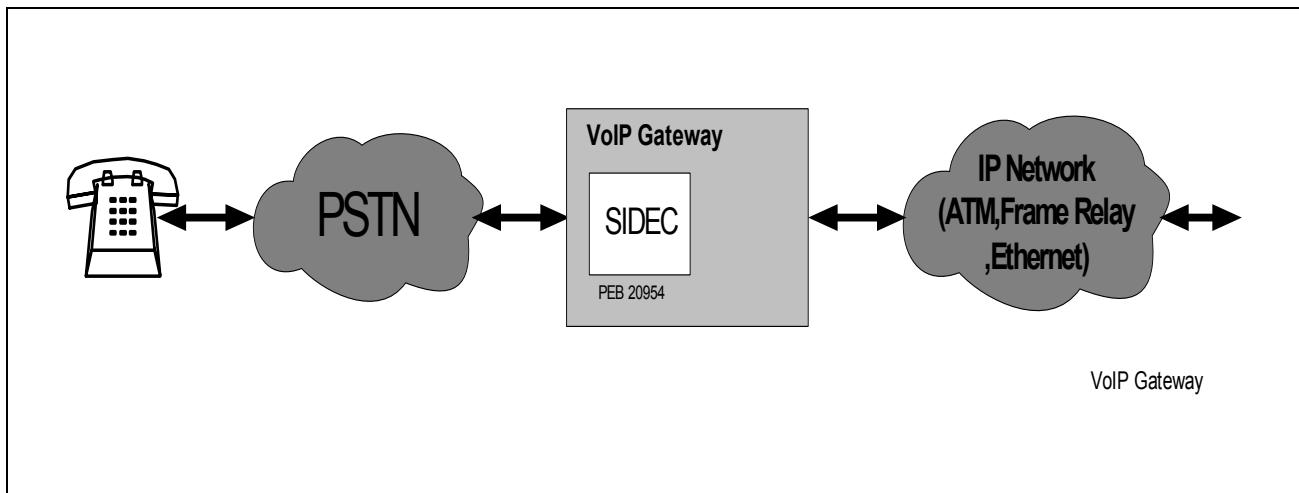
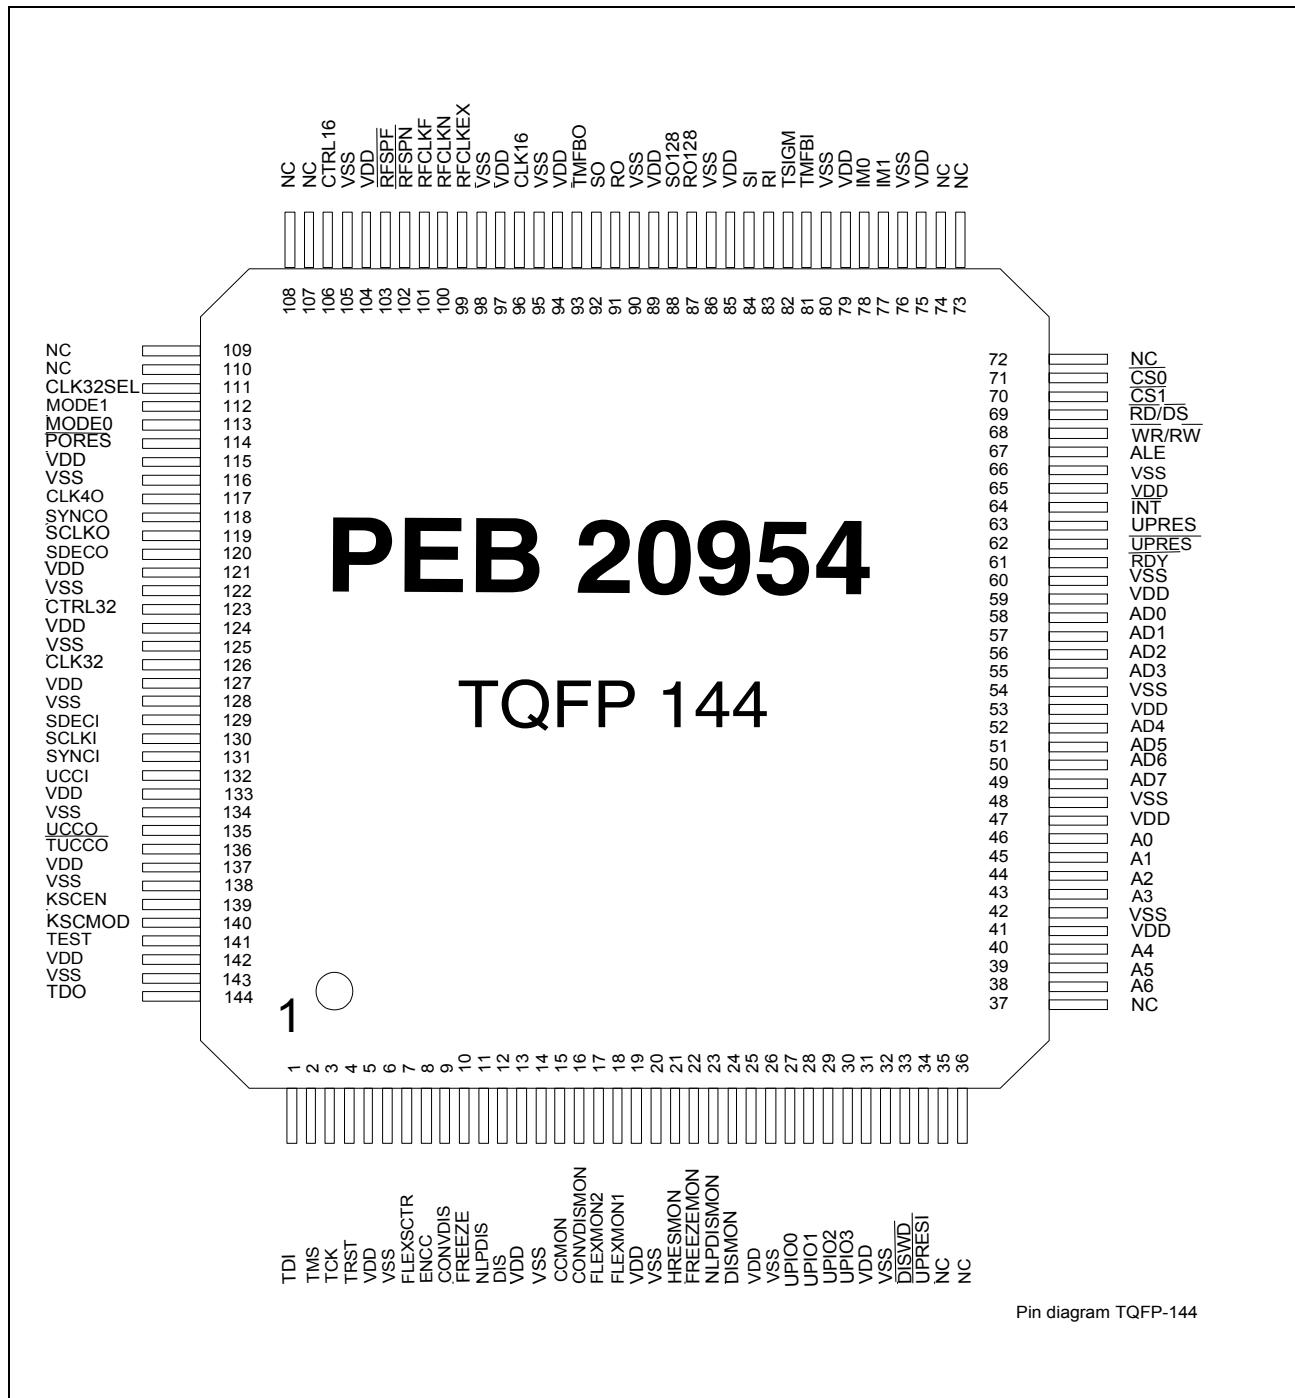

**Figure 2** **SIDEC in a Circuit Emulation Service Carried over ATM**
**Figure 5 SIDEDEC in a Wireless System**
**Figure 2** to **Figure 5** display typical examples.
For the set up illustrated in **Figure 2** a application note "Using SIDEC in a Voice over ATM Application" is available.